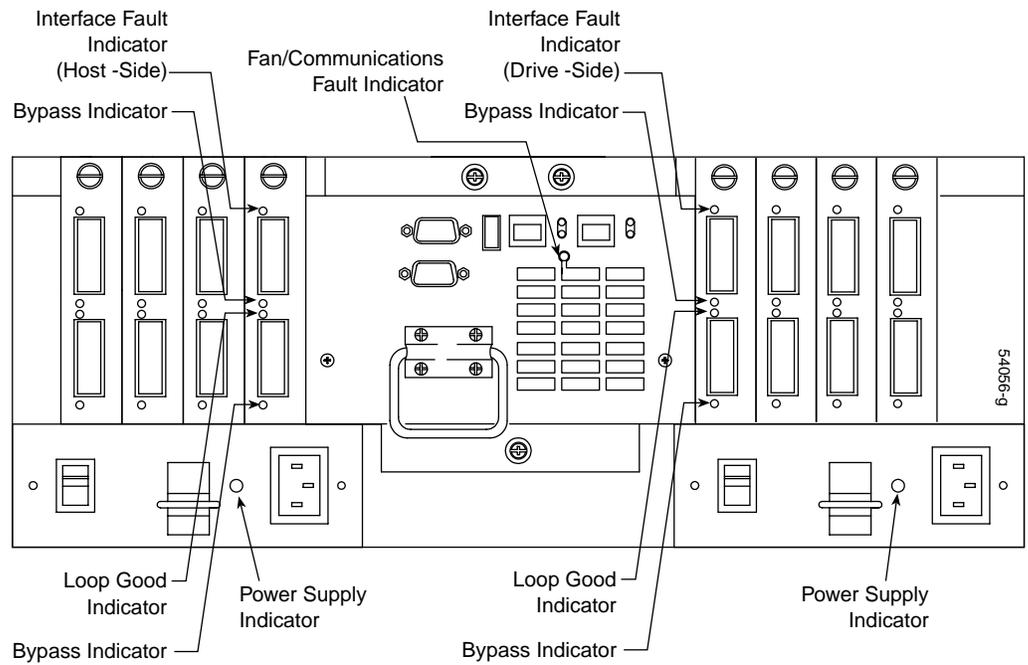

Figure 3-6 Indicator Lights (Rear)
3. Check the indicators on the rear of the controller enclosure (Figure 3-6 and Table 3-2).
Figure 3-6 and Table 3-2 describe the indicator lights on the rear of the controller enclosure.